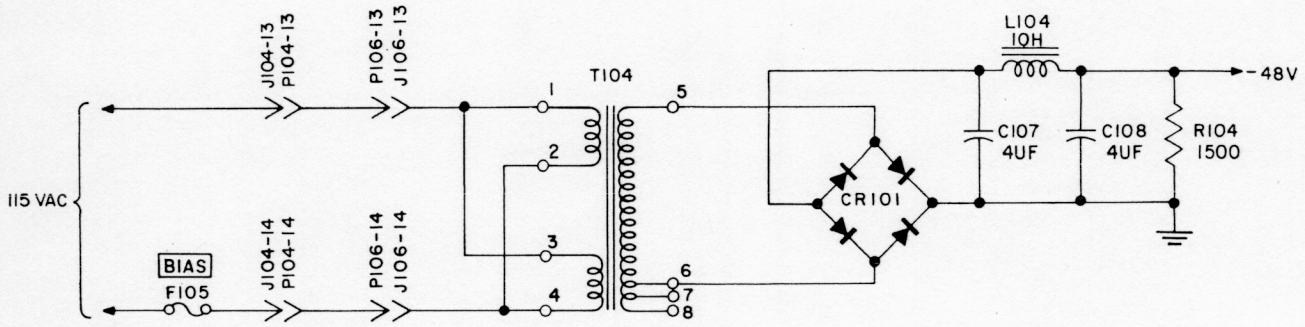

Figure 4-14. Bias Supply, Simplified Schematic Diagram
c. BIAS SUPPLY. - (Refer to figure 4-14.) The bias supply consists of a copper-oxide full-wave rectifier, CR101, and an L-C pi-type filter, composed of L104, C107, and C108. The filter attenuates the fundamental ripple frequency at least 40 db below the d-c level. The primary a-c power is supplied the rectifier by transformer T104. The -48 v bias developed across bleeder R104 is distributed to the power amplifier grids and the audio driver (V305 and V306) grids.